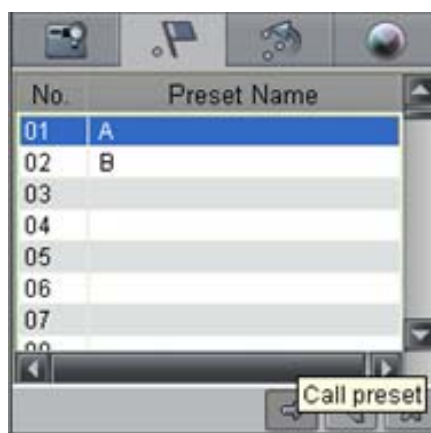

Figure 4.2.18 Call Preset
**Call Preset:** Select a predefined preset from the list and click the *Call preset* button to call a preset. Refer to Figure 4.2.18.